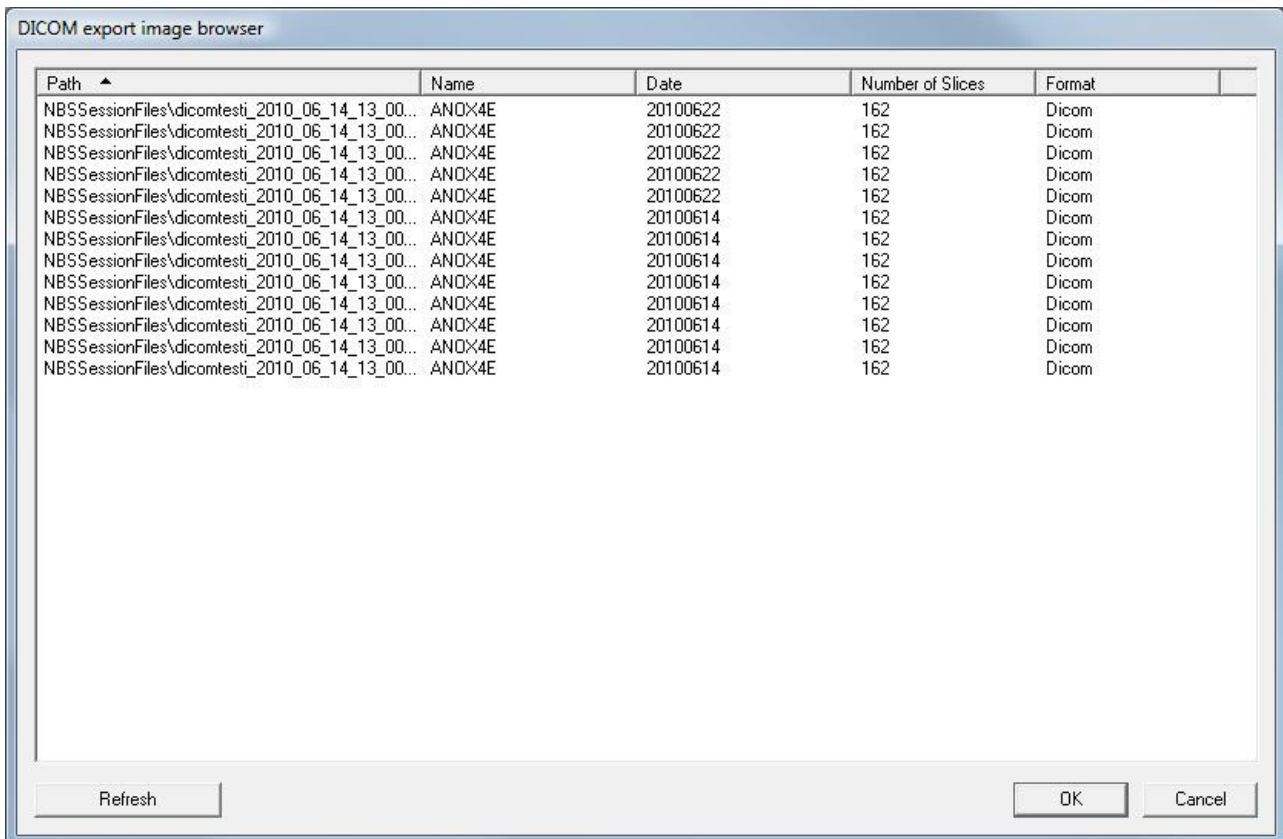

Fig. 128. DICOM export image browser -dialog
4. Click **OK** to refresh the DICOM export image list and then open the **DICOM export image browser** -dialog (Figure 128).